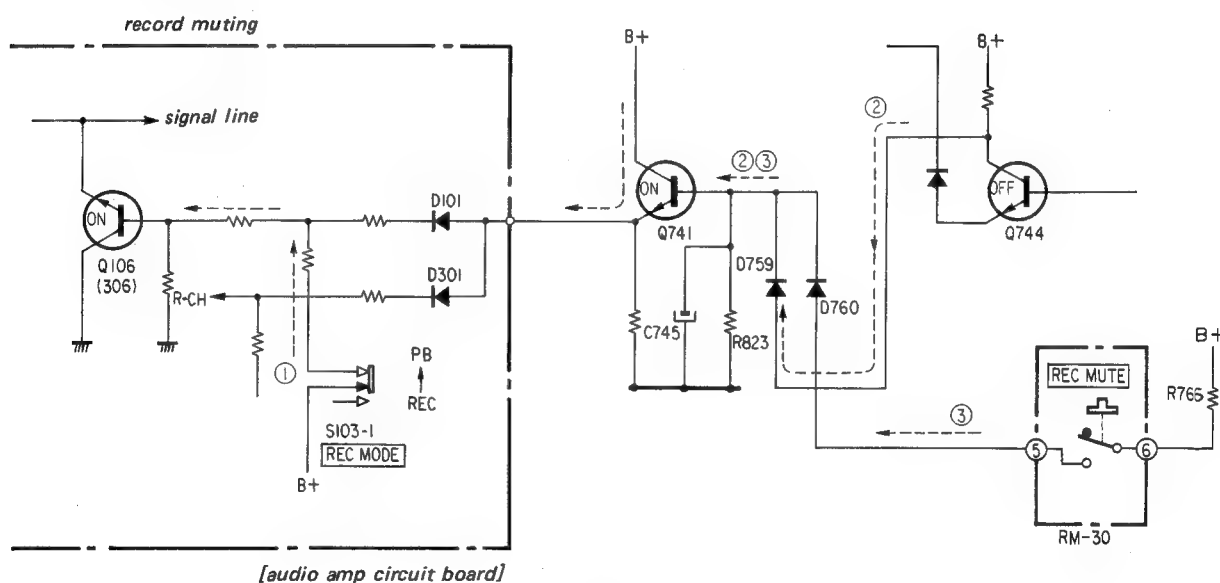

Fig. 17
15. Record Muting (Refer to Fig. 17)